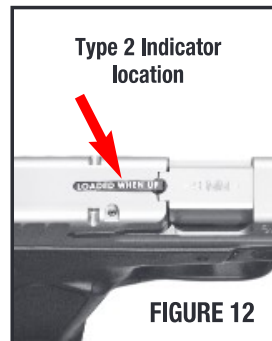

FIGURE 12
- **Type 2:** Some S&W SD9 VE™ and SD40 VE™ pistols are equipped with a tactile loaded chamber indicator. This indicator is present on the top of the slide. When the chamber is empty, the loaded chamber indicator will be flush with the top of the slide. When the chamber is loaded, the front of the loaded chamber indicator will protrude from the top of the slide where it can be felt above the slide's surface (FIGURES 12 and 13).